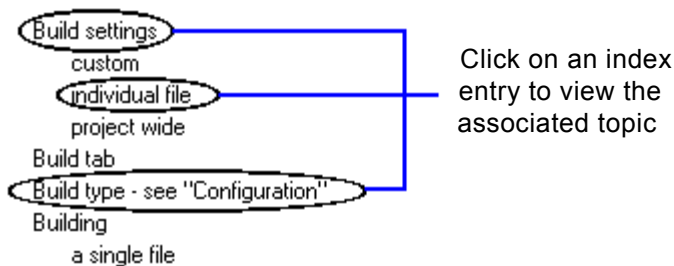

Figure 1-14. Index Entries on the Index Page
- An index entry on the Index page (Figure 1-14)